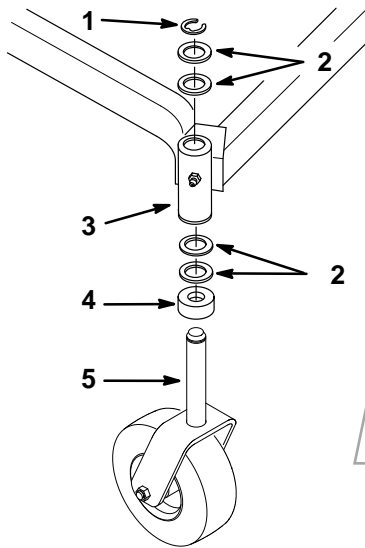

Figure 28
2. Remove the retaining ring and thrust washer(s) from the top of the castor wheel fork (Fig. 28).
6. Inspect the castor wheel fork for wear and replace if necessary (Fig. 28).
7. Slide the castor wheel fork through the bushings in the mounting tube. Replace the thrust washer(s) onto the fork and secure with the retaining ring (Fig 28).